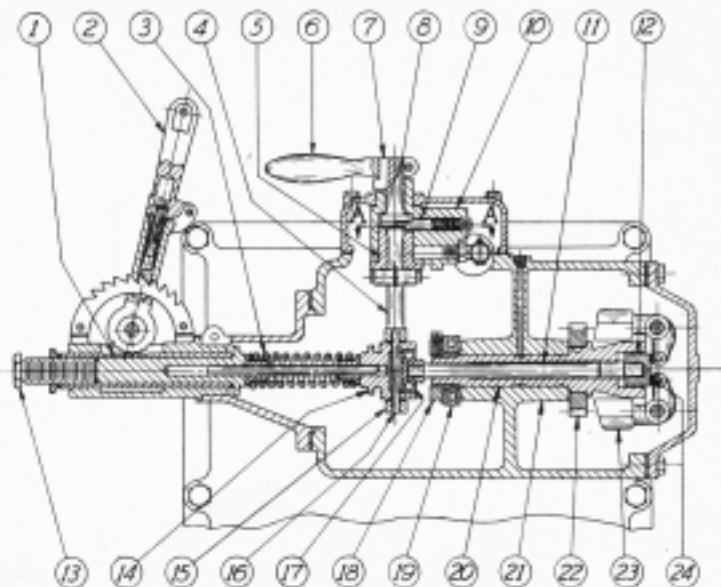
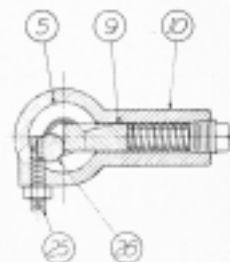

FIG. Q-1
FIG. Q-2
The flyball type governor is mounted on the forward end of the centerframe and is driven by the camshaft gear. It is illustrated in Fig. Q-1. Governor housing (21) which forms the governor bearing is bolted and doveled to the centerframe. It is located to allow .004" - .005" backlash between governor gear (22), which is keyed and pressed on governor body (20), and the camshaft gear. Lubricating oil from the pressure pump is piped to the bearing through a drilled hole in the housing. Governor weights (23) are mounted on fulcrum pins in governor body (20) and carry hardened steel rollers (24) on riveted pins. As the flyballs tend to move out due to centrifugal force, the rollers bear against thrust plate (12) and transmit the force developed by the weights through quill rod (11), thrust bearing (17) and spring block (14) to governor spring (3). The thrust reaction is taken by bearing (19), which is secured to the governor body by threaded retaining collar (18). Thrust clearance is adjusted to .010" and the collar is locked by a set screw, secured in place by a locking wire through the head.
The engine is stopped by rotating the hand lever on top of the governor housing. Lever (6) (See Fig. Q-1) is connected through a release mechanism to floating lever (10) on top of vertical shaft (4). Lever (10) is linked directly to the fuel wedge shaft. The release mechanism is shown in detail in Fig. Q-2 which is an enlarged section taken through A-A in Fig. Q-1. It serves to break the connection between Lever (10) and vertical shaft (4), releasing the wedge shaft from governor control. Referring to Fig. Q-2 it will be noted that set screw (25) and plunger (9), both of which are mounted in lever (10), form a rigid connection between levers (10) and (5). Lever
(5) is clamped to vertical shaft (4) and appears in Fig. Q-2 as the annular segment, the opposite ends of which bear against the diagonally milled flat on the lower side of plunger (9) (shown dotted in Fig. Q-2) and the end of setscrew (25). This is the normal position of the mechanism when the engine is running, levers (10) and (5) operating as a single unit. When hand lever (6) is pulled to stop the engine, eccentric (26) on the lower end of shaft (8) engages the end of plunger (9) and forces it back against its spring, out of engagement with lever (5). Lever (10) is then free to rotate counterclockwise without interference with lever (5). As control lever (6) is moved further the projecting key (7) engages a boss extending from the top of lever (10) (not shown in Fig. Q-1) and thereafter lever (10) follows the motion of hand lever (6), pulling out the fuel wedges and stopping the engine.